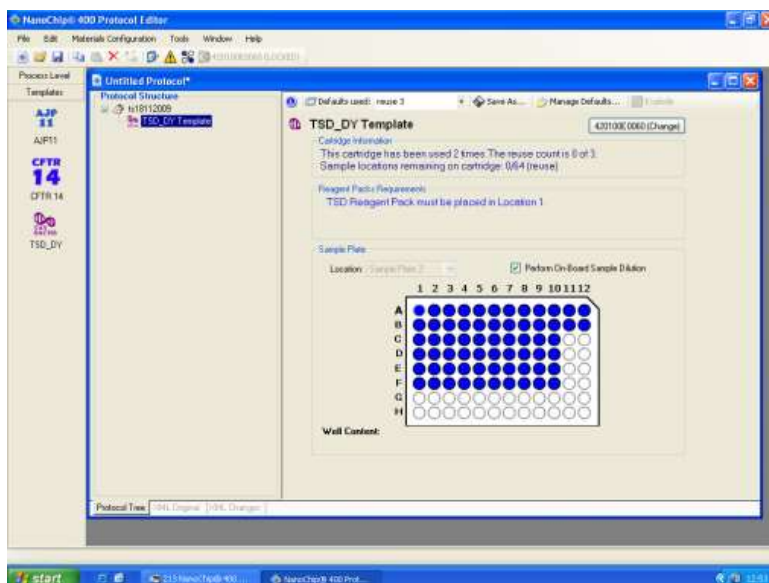

Figure 4. Protocol Editor Screen
6. When a screen like the one shown in figure 4 appears, mark the wells with the samples on the plate drawing and select **“Perform On Board Dilution”**.